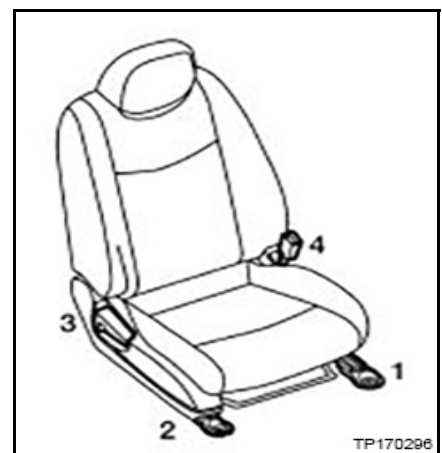

Figure 10
- Refer to Figure 10 for torque sequence.